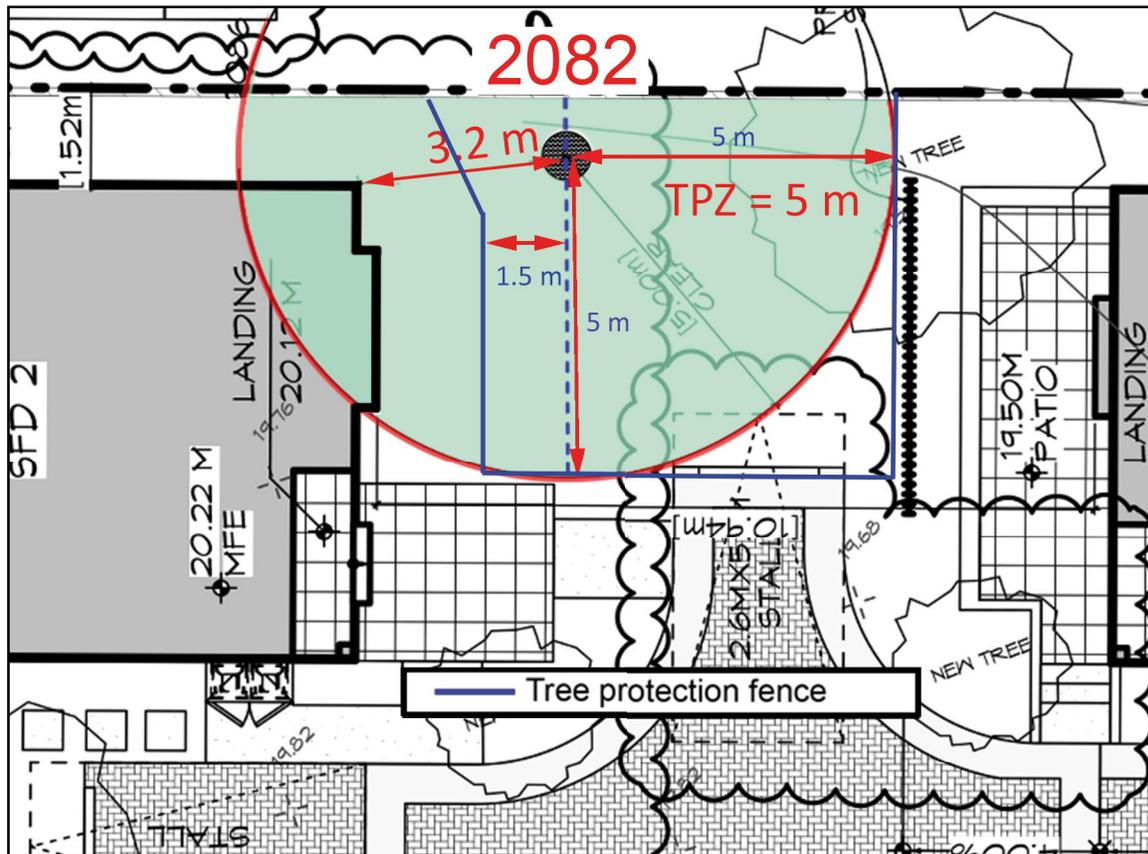

Figure 4. Fencing detail by tree # 2082.
The oak tree (# 2082) shall be fenced off as shown in figure 4 below.
The tree protection zone (TPZ) is set at a radial distance of 5 metres from the centre of the tree (the green area in figure 4). The fence shall extend 5 metres to the east and 5 metres to the south. Using a north - south line from the centre of the tree (dashed blue line in figure 4), set the west side of the fence 1.5 metres to the west of that centreline. Closer to the tree, angle the fence over towards the boundary.
- 1 Prior to any other site preparation, the oak tree shall be fenced off at as shown in detail in Figure 4.